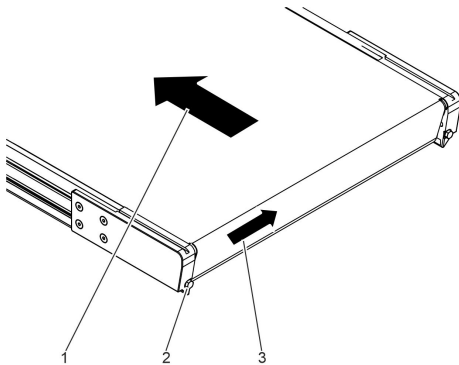

Fig. 78: Knife edge infeed
- ➔ Make corrections in small steps by turning the clamping screw (Fig. 78/2) clockwise by 1/8 to 1/4 turn. The conveying direction corresponds to the direction of the arrow (Fig. 78/1).
- ⇒ The conveyor belt reacts in the direction of the arrow (Fig. 78/3).